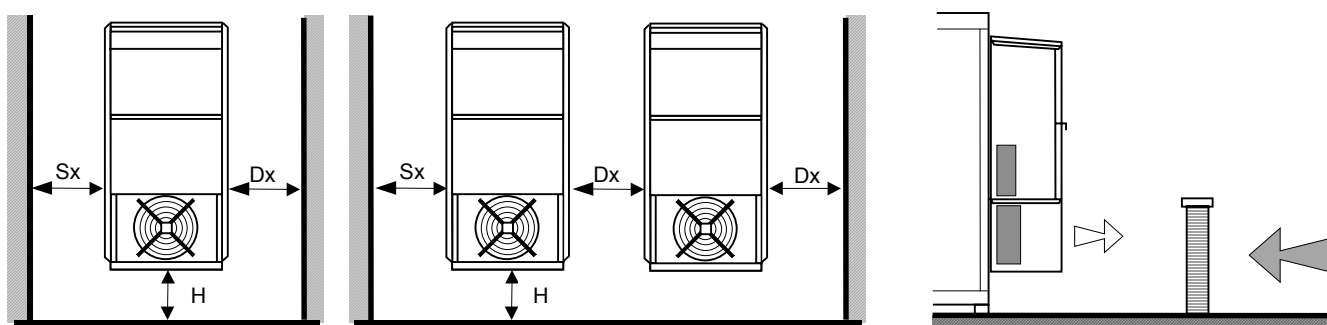

Fig. 5
- ♦ If the installation location is windy, it is advised to choose a protected area since the condensate axial fans have limited pressure (not greater than 10 Pa). See fig 5. and 7.